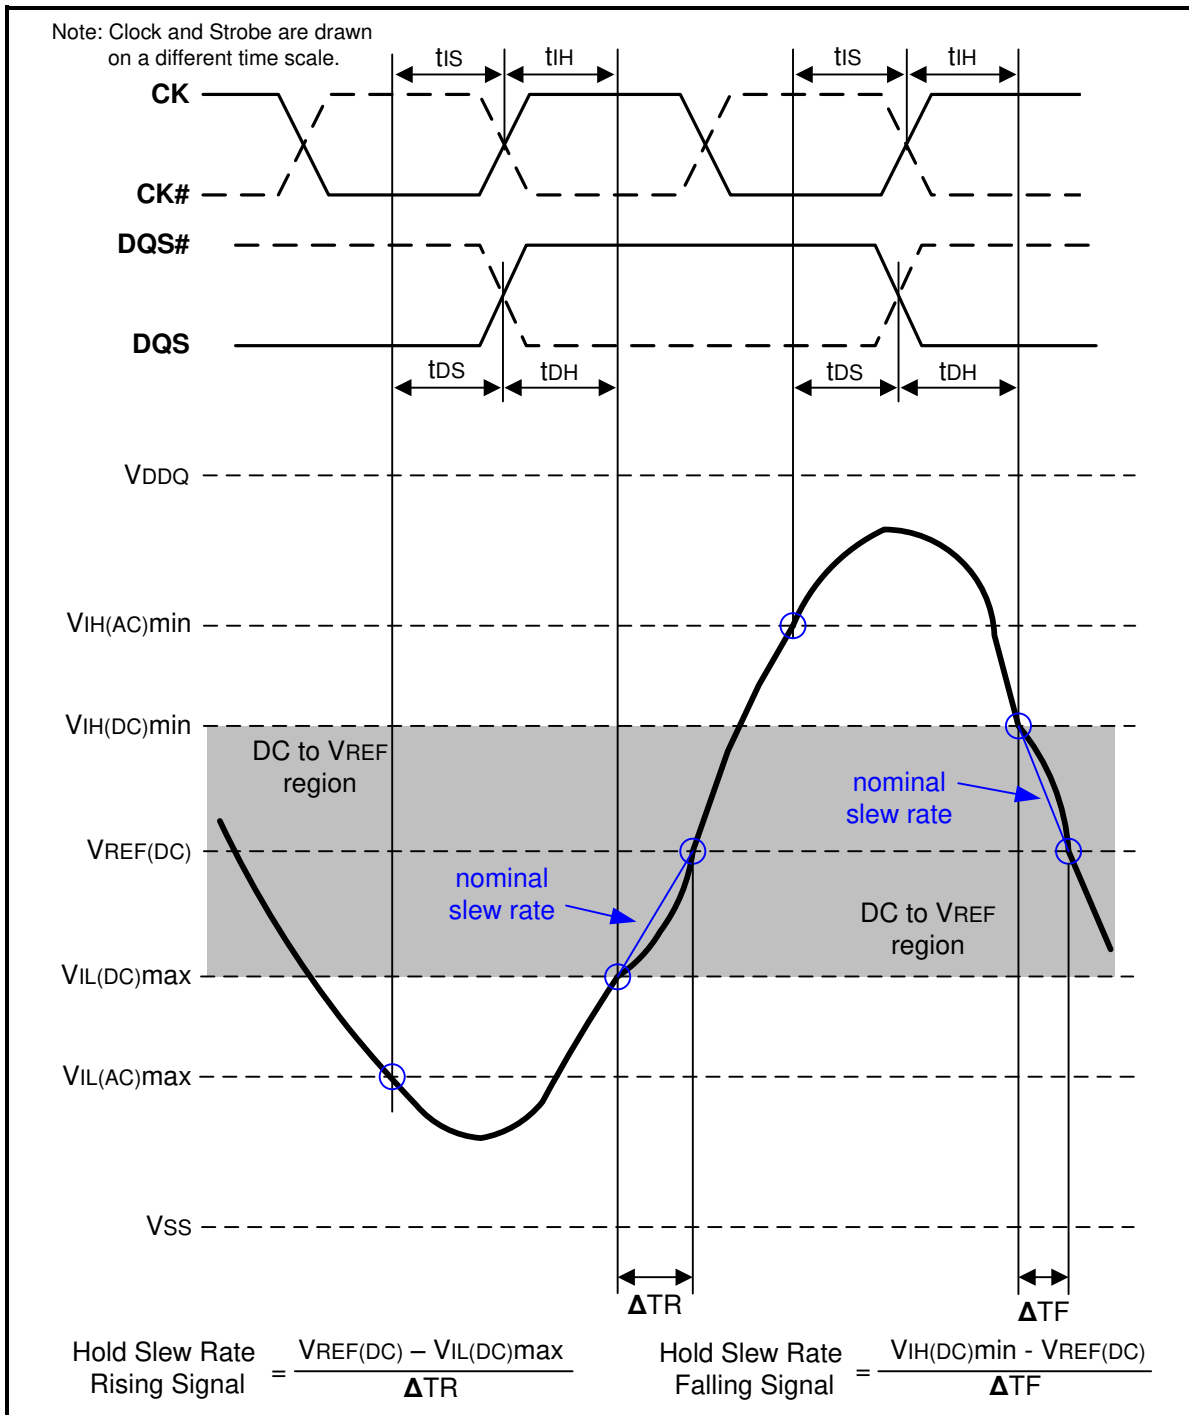
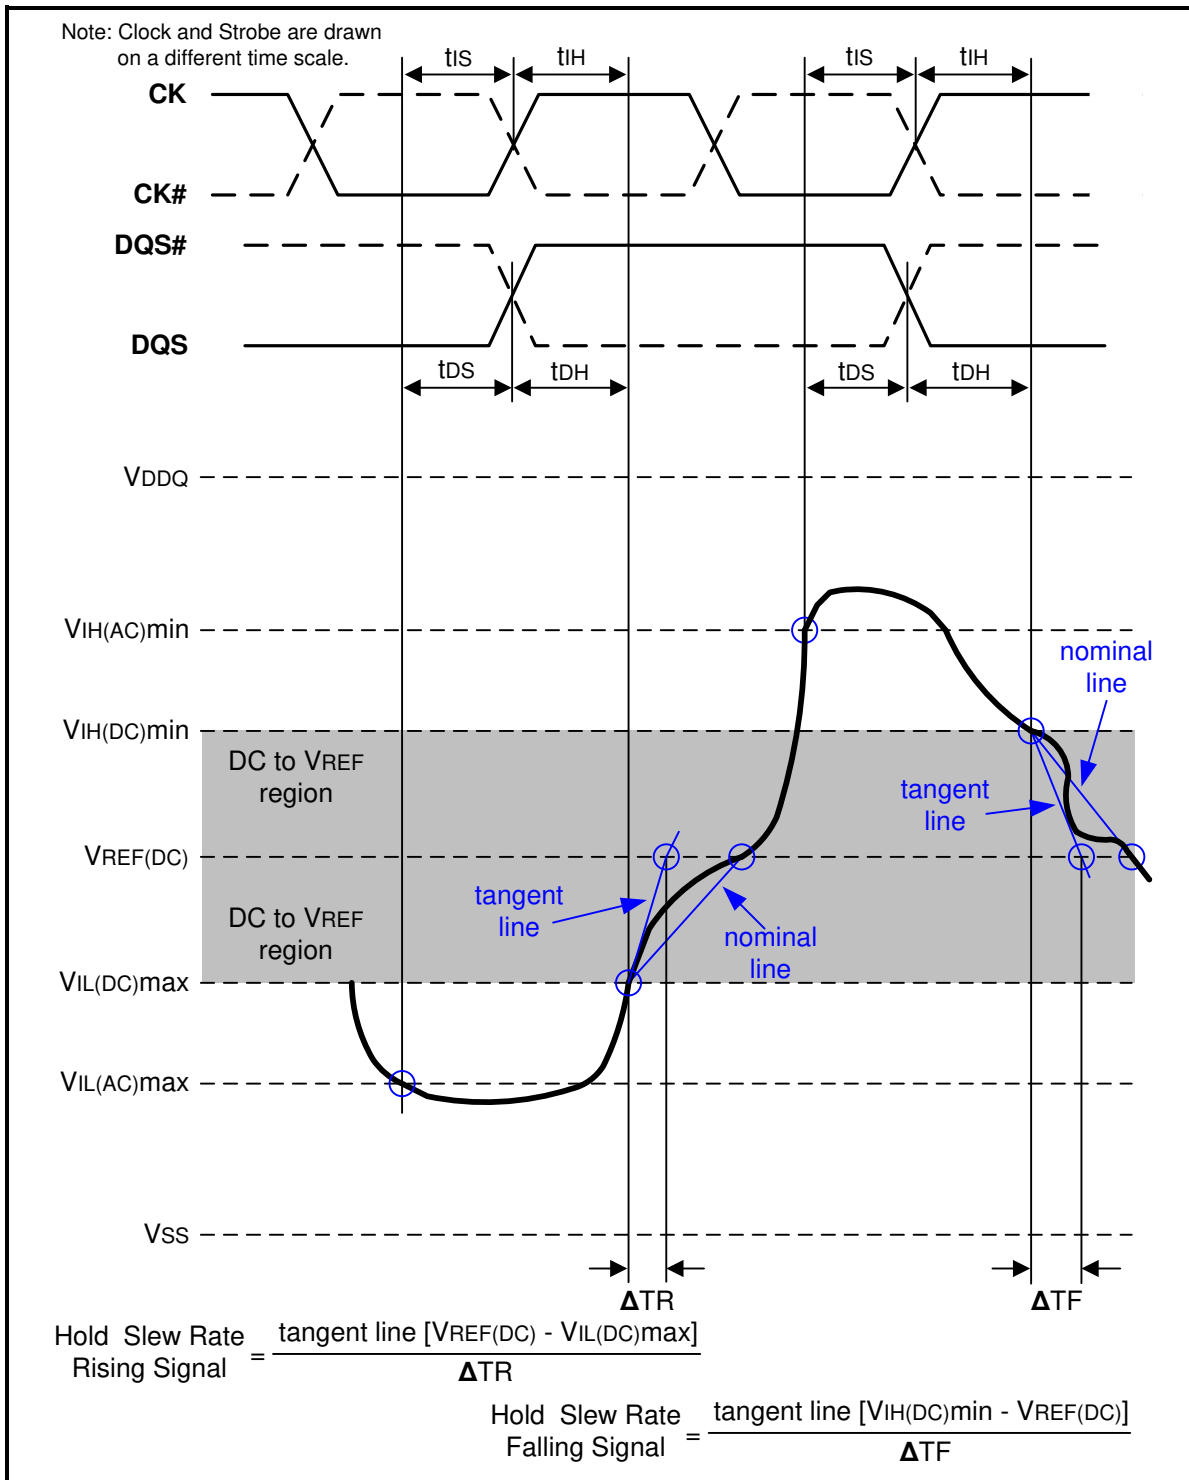

Figure 108 – Illustration of nominal slew rate for hold time tDH (for DQ with respect to strobe) and tIH (for ADD/CMD with respect to clock)
Figure 110 – Illustration of tangent line for hold time tDH (for DQ with respect to strobe) and tIH (for ADD/CMD with respect to clock)
Hold ( $t_{IH}$ ) nominal slew rate for a rising signal is defined as the slew rate between the last crossing of  $V_{IL(DC)max}$  and the first crossing of  $V_{REF(DC)}$ . Hold ( $t_{IH}$ ) nominal slew rate for a falling signal is defined as the slew rate between the last crossing of  $V_{IH(DC)min}$  and the first crossing of  $V_{REF(DC)}$ . If the actual signal is always later than the nominal slew rate line between shaded 'DC to VREF(DC) region', use nominal slew rate for derating value (see Figure 108). If the actual signal is earlier than the nominal slew rate line anywhere between shaded 'DC to VREF(DC) region', the slew rate of a tangent line to the actual signal from the DC level to VREF(DC) level is used for derating value (see Figure 110).
Hold (tDH) nominal slew rate for a rising signal is defined as the slew rate between the last crossing of VIL(DC)max and the first crossing of VREF(DC). Hold (tDH) nominal slew rate for a falling signal is defined as the slew rate between the last crossing of VIH(DC)min and the first crossing of VREF(DC) (see Figure 108). If the actual signal is always later than the nominal slew rate line between shaded 'DC level to VREF(DC) region', use nominal slew rate for derating value. If the actual signal is earlier than the nominal slew rate line anywhere between shaded 'DC to VREF(DC) region', the slew rate of a tangent line to the actual signal from the DC level to VREF(DC) level is used for derating value (see Figure 110).